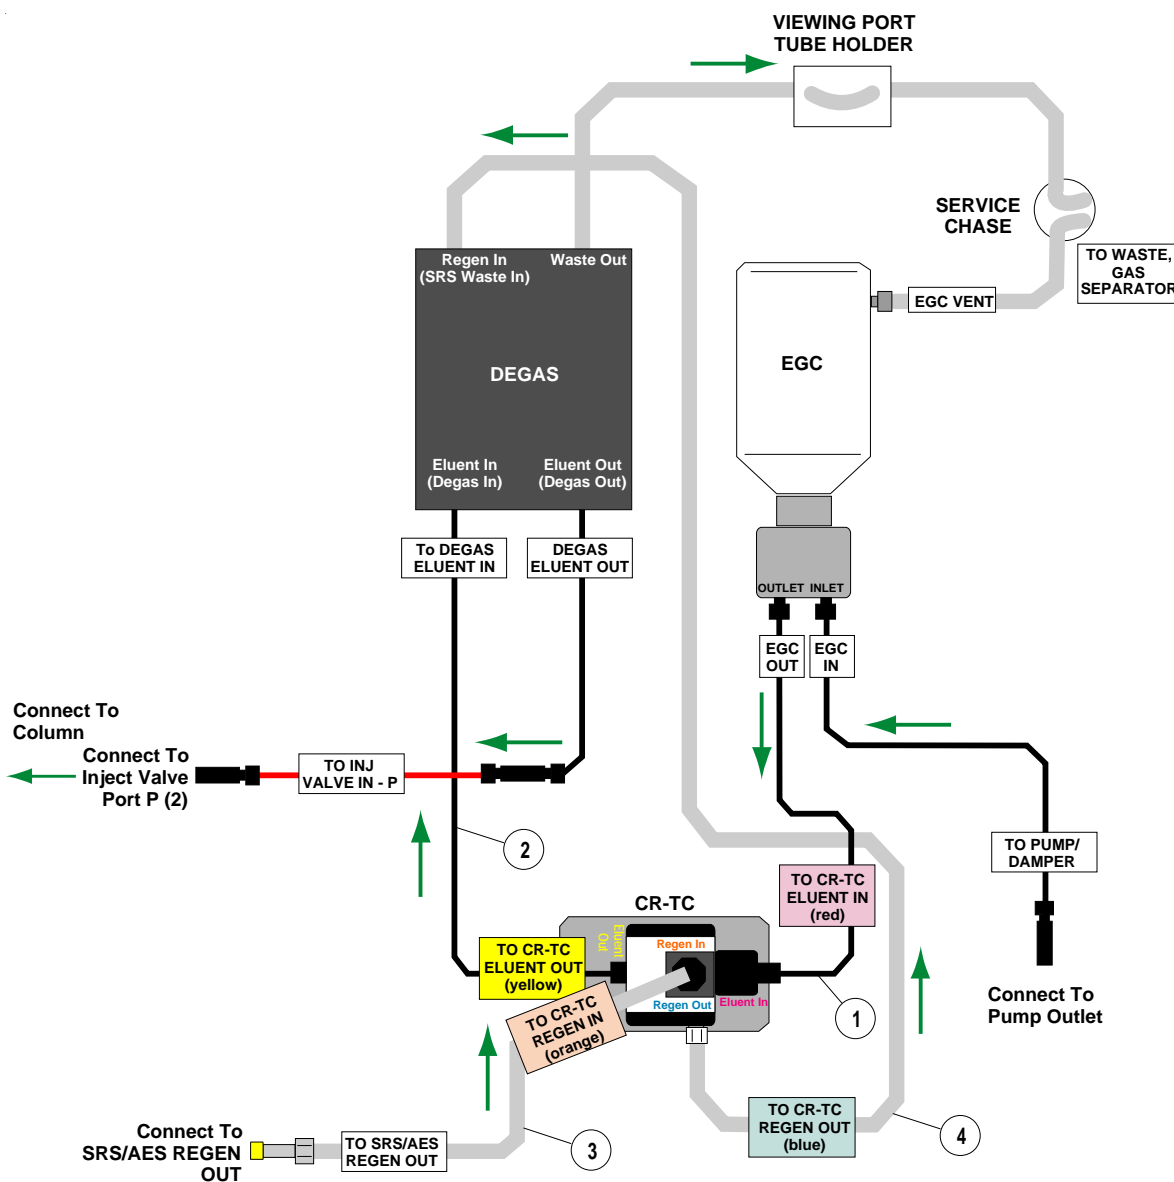
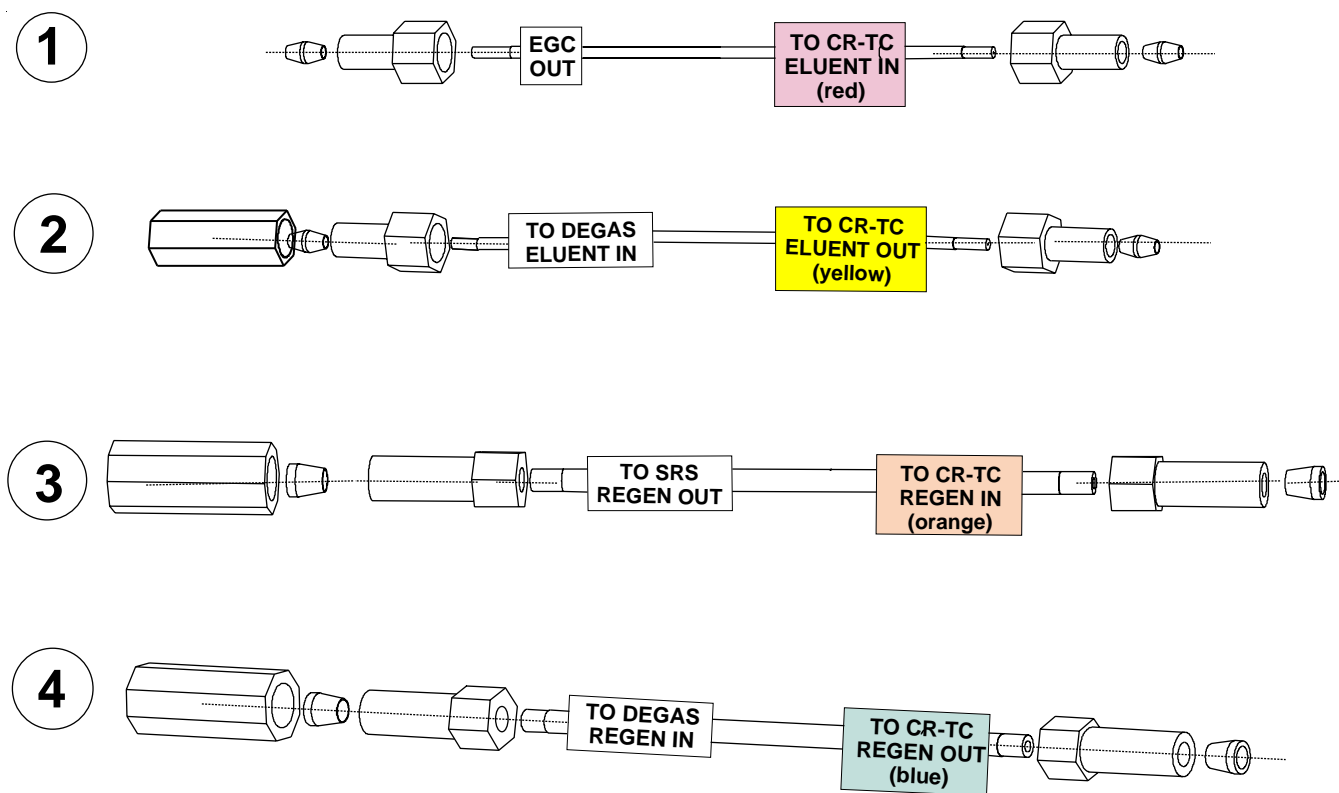

Figure 22
Figure 23
The CR-TC is installed between the EGC II KOH or EGC II MSA cartridge and the Degas Module as shown in Figure 22. Ensure that the EG40 is properly installed on the system.
- D. Assemble the tubing and fittings using the parts located in the EG40 CR-TC Add-on Kit (P/N 060625, see Figure 2, item 9). Figure 23 illustrates how to assemble the tubing. The numbers on Figure 22, “Plumbing Schematic for the EG40 with CR-TC,” match the tubing assemblies in Figure 23.